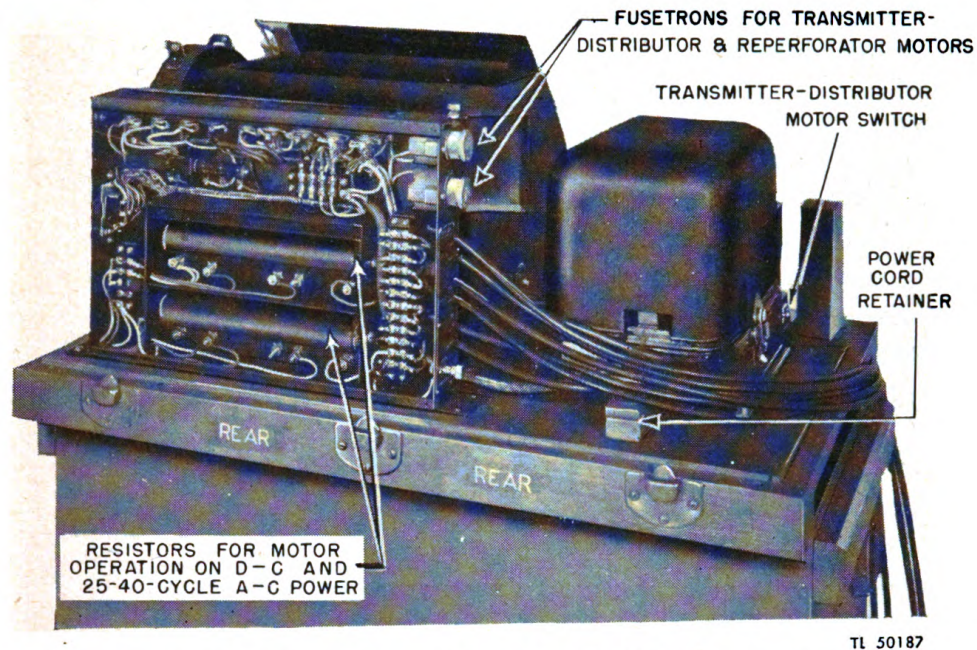

Figure 22. Reperforator Transmitter TG-26-A, rear view.
transmit messages. A distant station cannot start and stop the reperforator motor as in the case of page-printing teletypewriters. When the platen is in the figures position, operation of the H key on the reperforator will stop the motor of associated teletypewriters equipped with mechanical motor control. The motor switch of the transmitter-distributor is mounted on the side of the unit base (fig. 22).
15. PACKING FOR TRANSPORTATION. Shut off the power, disconnect all power-cord and signal-circuit connections, and replace all parts in their carrying chests. Handle the equipment carefully. Fold the line, power, reperforator and transmitter-distributor cords of the reperforator-transmitter carefully in the space between the jack box and the rear of the reperforator. Secure the free ends of the signal cords by plugging them into jacks of the jack box. Secure the free ends of the two power cords by placing them under the hinged cord retainer mounted on the base of the rear of the transmitter-distributor (fig. 22). When packing Reperforator Transmitter TG-26-A or TG-27-A, be sure that the tape trap doors are closed in both the base and cover before fastening the cover to the base.
(1) In the reperforator-transmitters, two 1.6-ampere Edison base fuse-trons are located in sockets in the upper left side of the jack box and are protected by a hinged cover (fig. 22). The upper fuse-tron is in the transmitter-distributor motor circuit; the lower protects the motor of the reperforator.
(2) In Line Unit BE-77-A, a ¼-ampere, type 3AG, glass-inclosed fuse is located on the meter panel.
(3) In Line Unit BE-77, a ¼-ampere, type AG, glass-inclosed fuse is located under the cover.
(4) In Rectifiers RA-87 or RA-89, a 5-ampere, type 3AG, glass-inclosed fuse is mounted on the tap-changing panel for the d-c circuits, and a 15-ampere, fibre-inclosed cartridge fuse is located underneath the chassis for the a-c circuits.
(5) Spare fuses are carried in Chests CH-53 and CH-53-A.